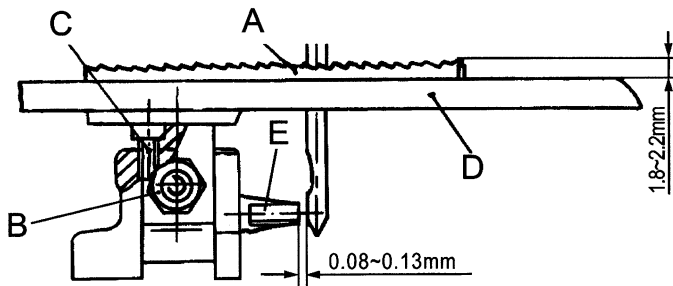

Fig. 8
At highest point of feed dog travel, the feed dog (A, Fig. 8) should be set so, that the rear teeth project their full depth above the throat plate surface. For setting remove the feed dog and adjust the supporting screw (B) on the top of the feed bar to the required height. Remount the feed dog and also the needle guard. For closing thin material such as textile and plastic bags, the teeth should project 1.8mm above the throat plate (D) surface, for thick material such as sack, the teeth should project 2.2mm above the throat plate surface.
The needle guard (E, Fig. 8) has to be set so, that it just contacts the needle at its most forward point of travel, without deflecting it. Project 0.08 to 0.13mm between needle and needle guard.